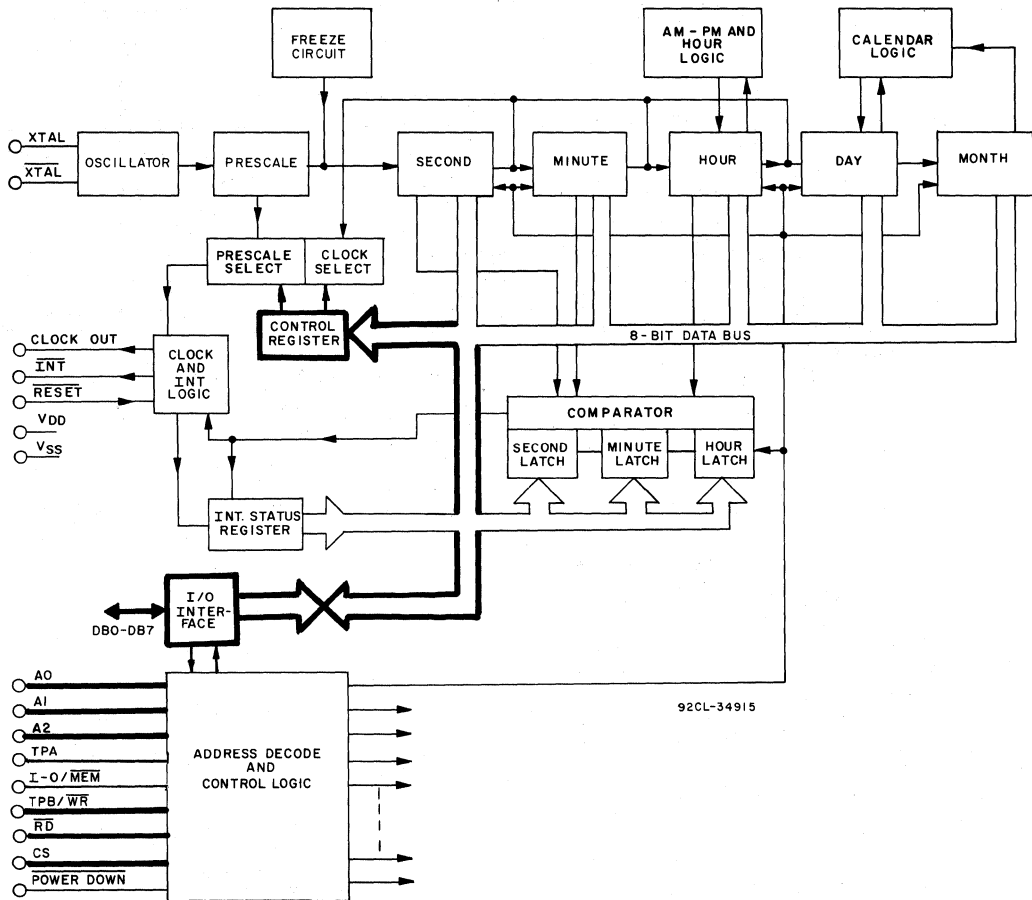

Fig. 4 - Functional diagram - control register highlighted.
Operational control of the real-time clock is determined by the byte in a write-only control register. The 8-bit value in this register determines the correct divisor for the prescaler, a data direction and alarm enable bit, clock output select, and start/stop control (see Fig. 4).
**CONTROL REGISTER (See Table I and Fig. 4)**